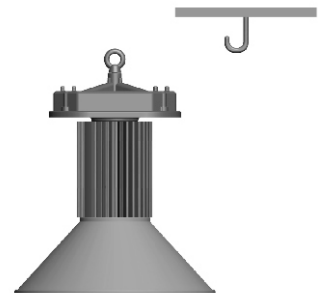

Fig.3
3. Put the lifting bolt into the hook on the ceiling steadily (Fig.3)